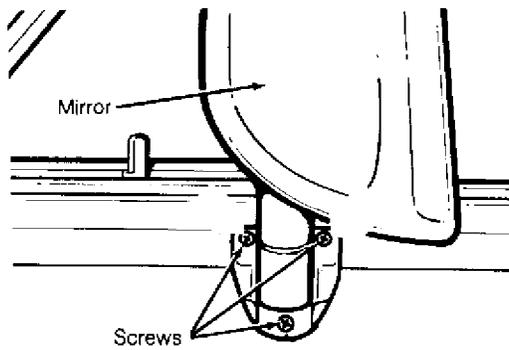
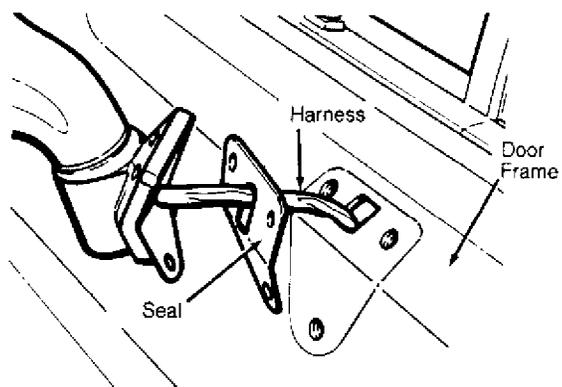

Fig. 10: Removing Mirror Bracket Screws (Vanagon)
Fig. 11: Installing Mirror Assembly (Vanagon)
2) Pry off plastic cap at base of mirror bracket, and remove 3 bracket securing screws. See Fig. 10. Remove mirror assembly with wiring harness. To install, reverse removal procedure, ensuring seal is positioned for proper fit and wire harness is secured to door frame with tie wraps. See Fig. 11. Check mirror for proper function.